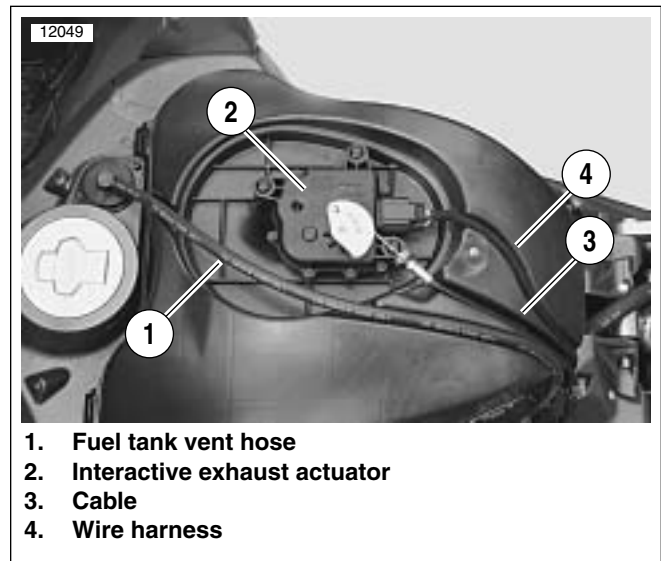

Figure 7-85. Interactive Exhaust Installation
2. See Figure 7-85. If installing actuator:
- a. Attach interactive exhaust cable (3) to cable wheel on actuator (2).
- b. Install actuator (2) and fuel tank vent hose (1) and tighten actuator fasteners to 36-40 **in-lbs** (4-4.5 Nm).
- c. Adjust cable (4). See 1.17 INTERACTIVE EXHAUST CABLE\(XB12 MODELS ONLY\).